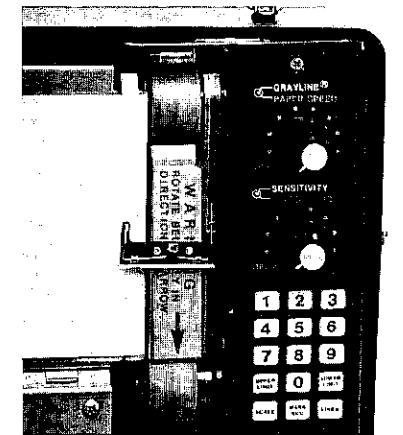

Figure 36
2. Release both catches on the top of the case. Pull out and down on the top of the case front to expose the stylus belt. (See Figure 36.)